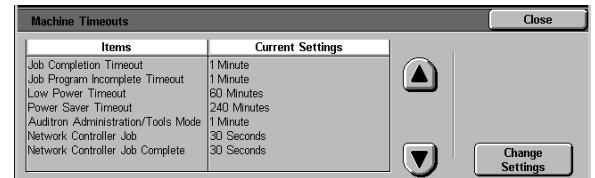

Figure 60: Timeouts screen
- 1 On the Tools screen, touch the **Machine Timeouts** button to display the Timeouts screen, as illustrated in Figure 60.